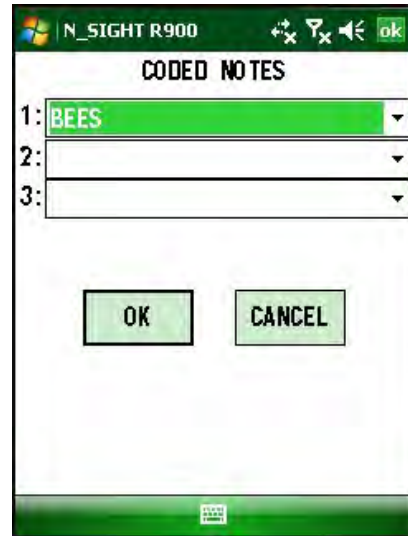

Figure 6.31 Screen Where Code Was Entered
- 2 Go to the screen where you entered the code or note. See Figure 6.31.